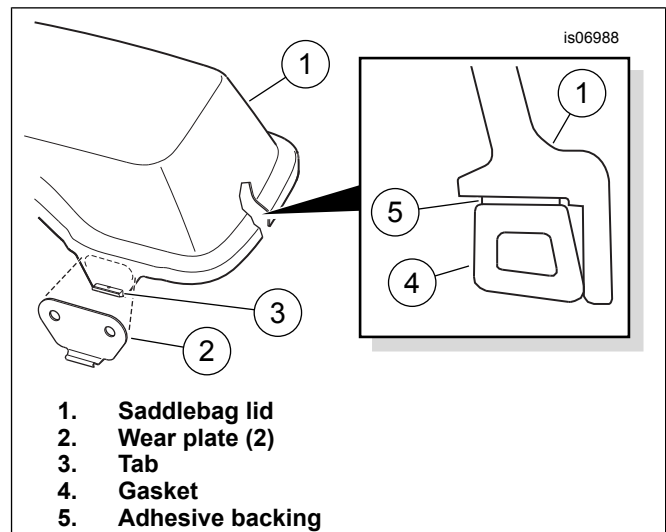

Figure 3. Assemble Wear Plates and Gasket to Saddlebag Lid
- See Figure 3. Remove the liner from the adhesive backing of one of the wear plates (2). Carefully position the wear plate to the saddlebag lid (1), centering it on the tab (3), and press firmly into place. Hold the wear plate in position with steady pressure for about a minute. Repeat with the second wear plate at the other end of the lid.
- Orient the gasket with the **tall edge** toward the outer lip of the cover as shown in Figure 3.
- Gradually remove the liner from the adhesive backing (Figure 3, Item 5) of the saddlebag lid gasket (4) as the gasket is pressed into place around the inside perimeter of the lid (1) as shown.